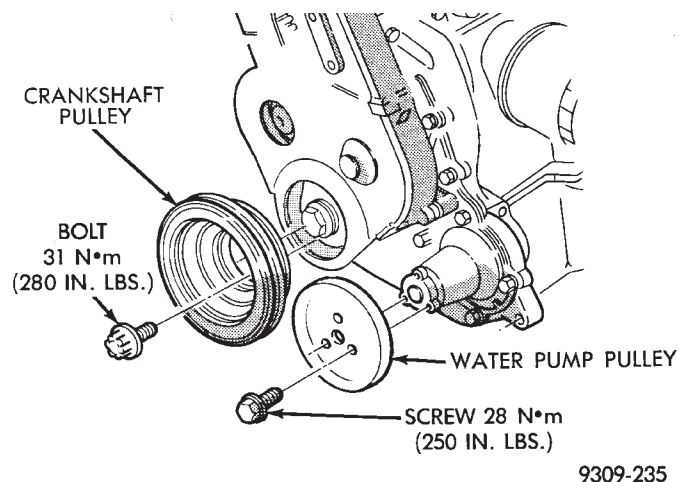

Fig. 3 Crankshaft and Water Pump Pulleys
(4) Remove water pump pulley and crankshaft pulley retaining bolts (Fig. 3), remove pulleys.
(3) Install crankshaft and water pump pulleys (Fig. 3).